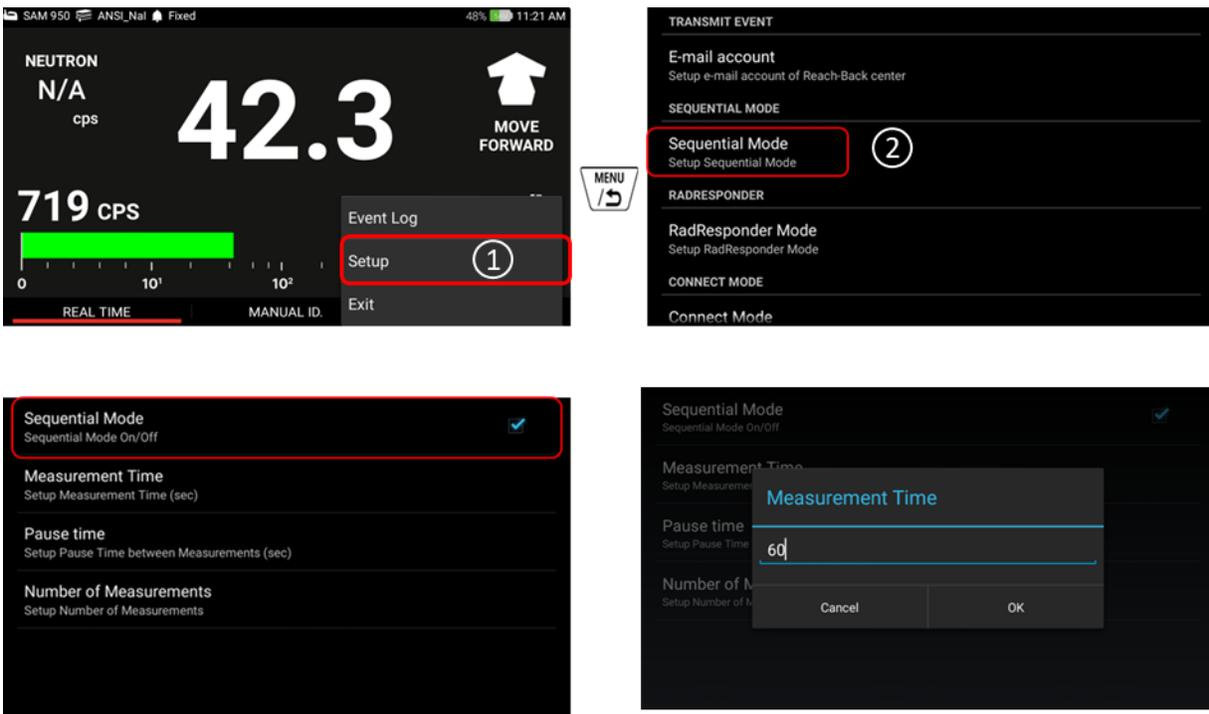

Figure 4.27. Optional Sequential Mode setup example
3. Sequential Mode is optional feature. It can be On/Off by check/uncheck the box as shown in figure 4.27.